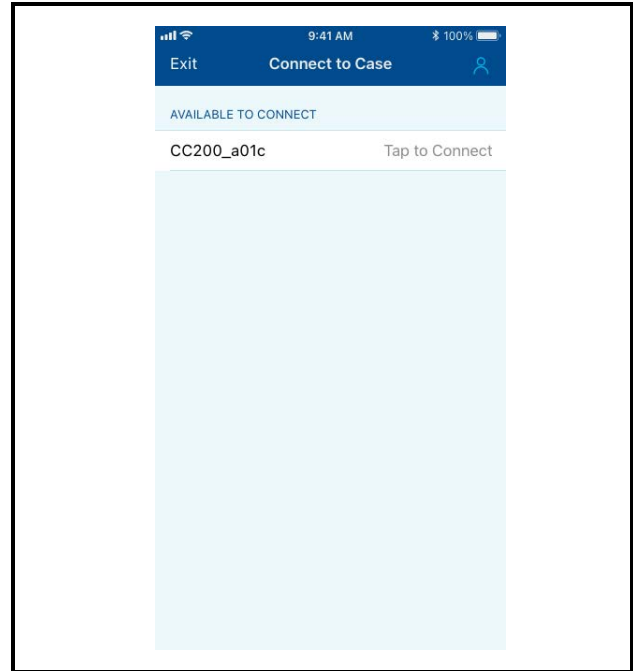

Figure 8-6 - Connect to Case
- b. Turn Bluetooth® ON the mobile device or tablet. Open Cold Chain Connect and sign in. After signing in, Cold Chain Connect will scan for nearby CC200 controllers and available controllers will be displayed as shown in the next screen (**Figure 8-6**).